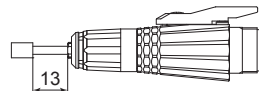

Fig. 1
- ① This Attachment is designed for hand use. Never install this Attachment or any hand cutting tool on a machine such as a special purpose machine, NC lathe or mill.
- ② Do not touch the cutting tool while it is rotating. It is very dangerous.
- ③ Wear safety glasses, dust mask, and use a protective cover around the Attachment whenever the Attachment is rotating.
- ④ When installing a cutting tool, tighten the collet correctly and check again the collet before use. Do not over-tighten the collet. This may cause damage to the spindle.
- ⑤ Do not use grindstones with an outside diameter over $\phi 12\text{mm}$.
- ⑥ Do not exceed 13mm of overhang for mounted grindstones as shown in Fig. 1. If the overhang must exceed 13mm, reduce the motor speed in accordance with Table. 1.
- ⑦ Do not use bent, broken, chipped, out of round or sub-standard cutting tools as they may cause shatter or explode. The cutting tool with cracked, bended may cause some injury to operator. When using a new cutting tool, rotate it in a low speed and increase speed gradually for safety.
- ⑧ Always operate cutting tools within the cutting tool manufacturer's recommended speed limits. Use of a cutting tool higher than the manufacturer's recommended speed limits could cause damage to the spindle and injury to the operator.
- ⑨ Do not apply excessive force. This may cause cutting tool slippage, cutting tool damage, injury to the operator, loss of concentricity and precision.